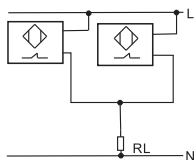

Fig. 13
4. Parallel connection of two-wire AC sensor.(Fig.13)